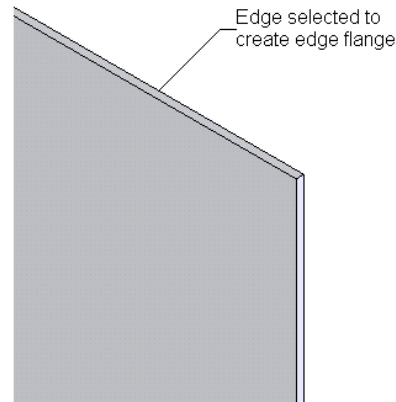

Figure 16-142 Edge selected to create edge flange
- Add the other required flanges to the sheet metal component, refer to Figures 16-142 through 16-150.
4. Select the edges of the base flange as shown in Figure 16-142.